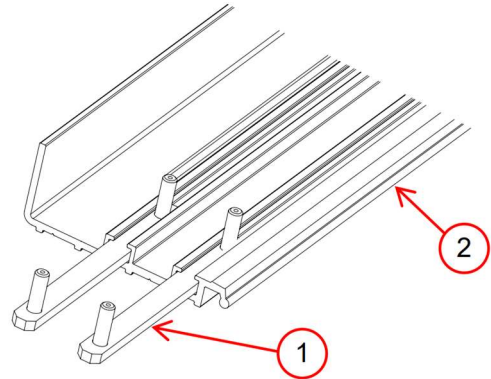

Figure 16: Sliders (1) in the two tracks on the base (2).
2. Each part attaches to the base with one or two “sliders” (Figure 16), which fit into the tracks on the base. **Remove the nuts from all sliders.**
Note: If the top bracket does not fit in this position (Figure 16), contact your MultiDrive supplier about obtaining a different style bracket that fits onto the right edge of the door.